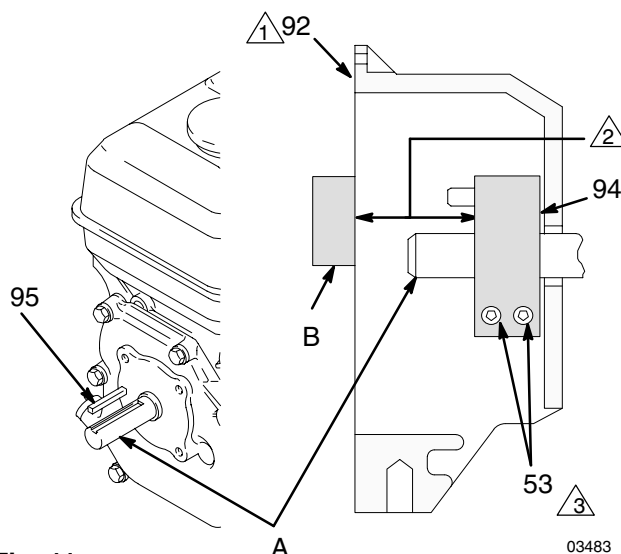

Fig. 11
1. Fig. 11. Loosen two screws (53) on clamp (94).
2. Push screwdriver into slot in clamp (94) and remove clamp.
1. Fig. 11. Install engine shaft key (95).
2. Tap clamp (94) on engine shaft A. Maintain dimension shown note 2 Fig. 11.
3. Press clamp (94) onto engine shaft (A). Maintain dimension shown note 2 in Fig. 11.